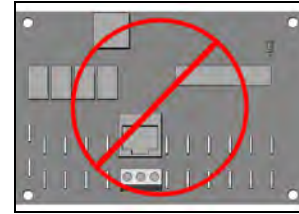

Figure 7
- Do not attempt to connect heat pump equipment in multiple configurations with previous HP7 and HP7R versions of the microprocessor. See Figure 7. No onboard port is provided for heat pumps with these microprocessor versions. An Automatic Sequencing Controller (ASC) accessory is required for those types of heat pumps.